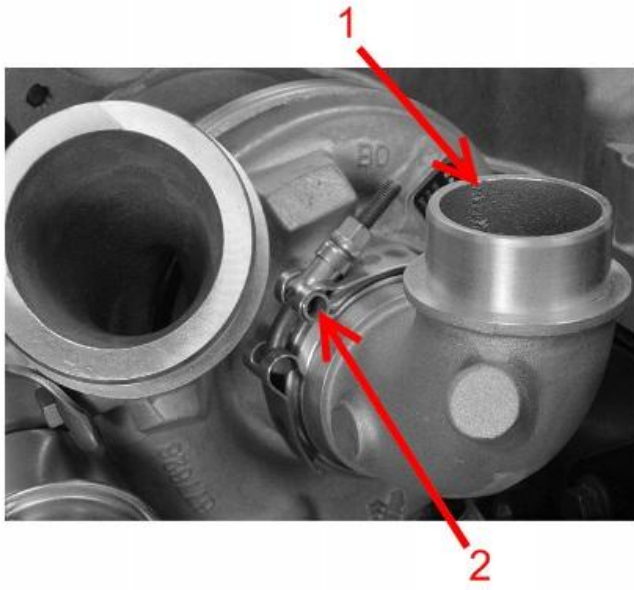

Figure 6: Turbocharger Inlet Elbow
14. Remove V-band clamp (**Figure 6**, Item 2) from turbocharger inlet elbow (**Figure 6**, Item 1).